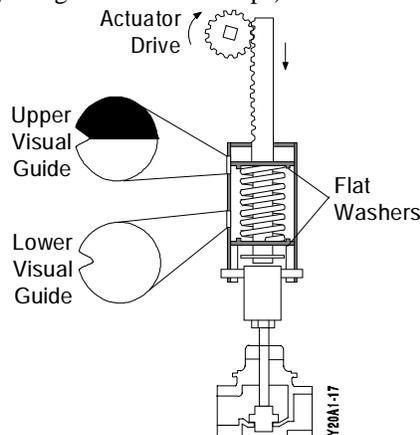

Figure 17: Upper Visual Guide Indicating Full Down Travel
5. As shown in Figure 17, when the edge of the upper flat washer is opposite the notch in the upper visual guide, the travel is properly adjusted. This represents 0.1 inch (2.54 mm) compression of the spring with the valve seated.